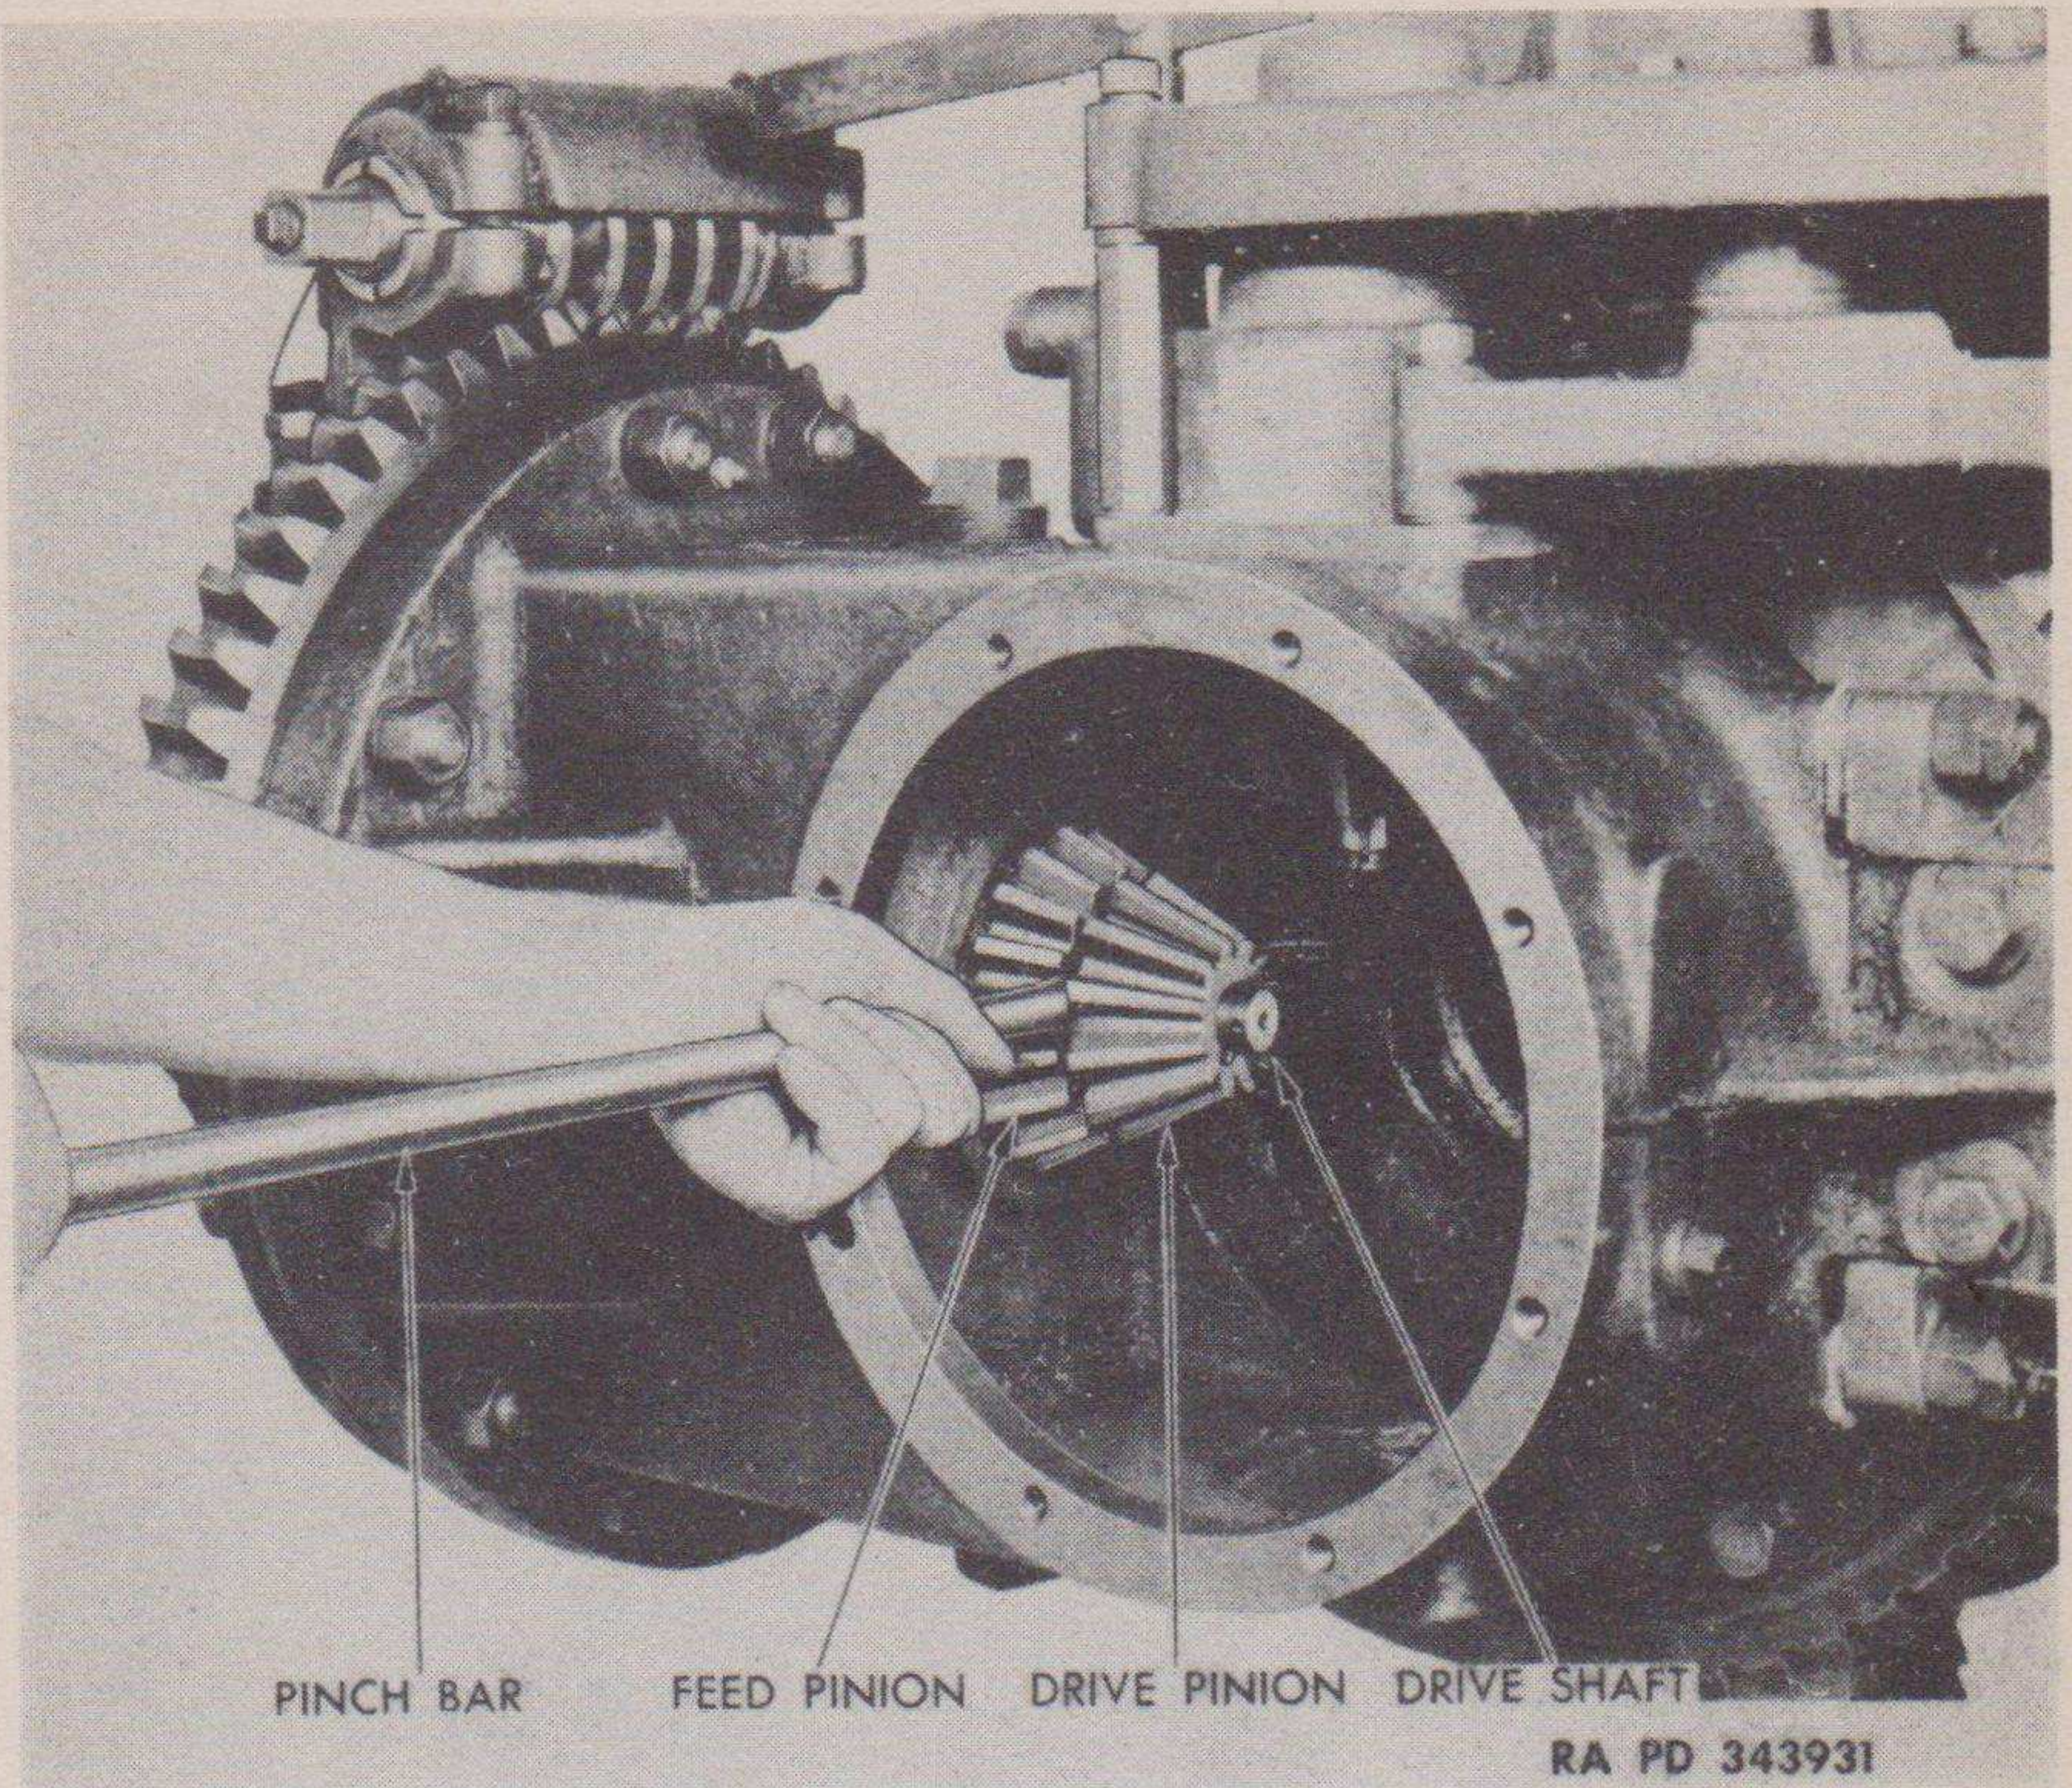

Figure 69—Removing First Reduction Drive Pinion
a. Removal (fig. 69).
(1) Remove intermediate gear assembly from intermediate gear case according to instructions given in paragraph 84a.
(2) Reach in through opening in intermediate case and remove cotter pin and nut from clutch drive shaft.
(3) Force pinion off shaft with a pinch bar or other similar tool.